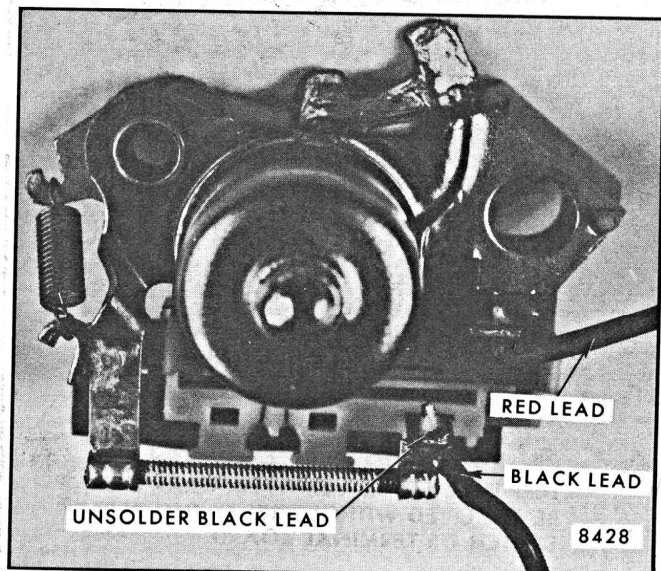

Fig. 2-105-Pulse Relay Terminal
4. Unsolder the black lead from relay terminal. Refer to Figure 2-105 when resoldering leads.